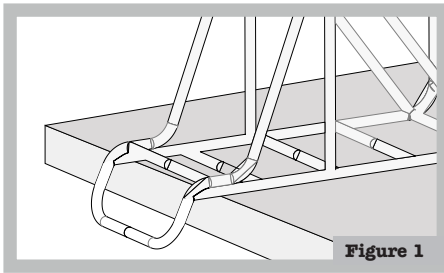

Figure 1
1. Start with a clean workspace, inventory hardware and gather supplies. Position the rack upside down, on your work surface. The rear of the rack should overhang the edge of the work surface as shown in Figure 1.